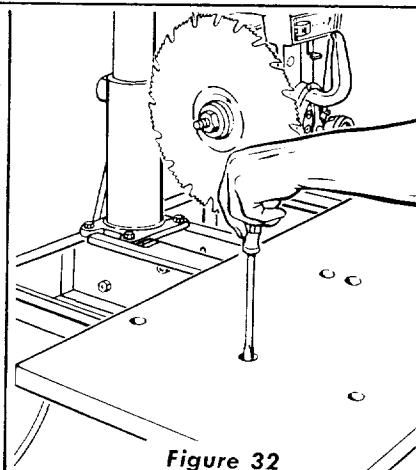

Figure 32
- (3) Recheck . . . and, if correct, tighten all table hold-down screws securely. (See figure 32.)